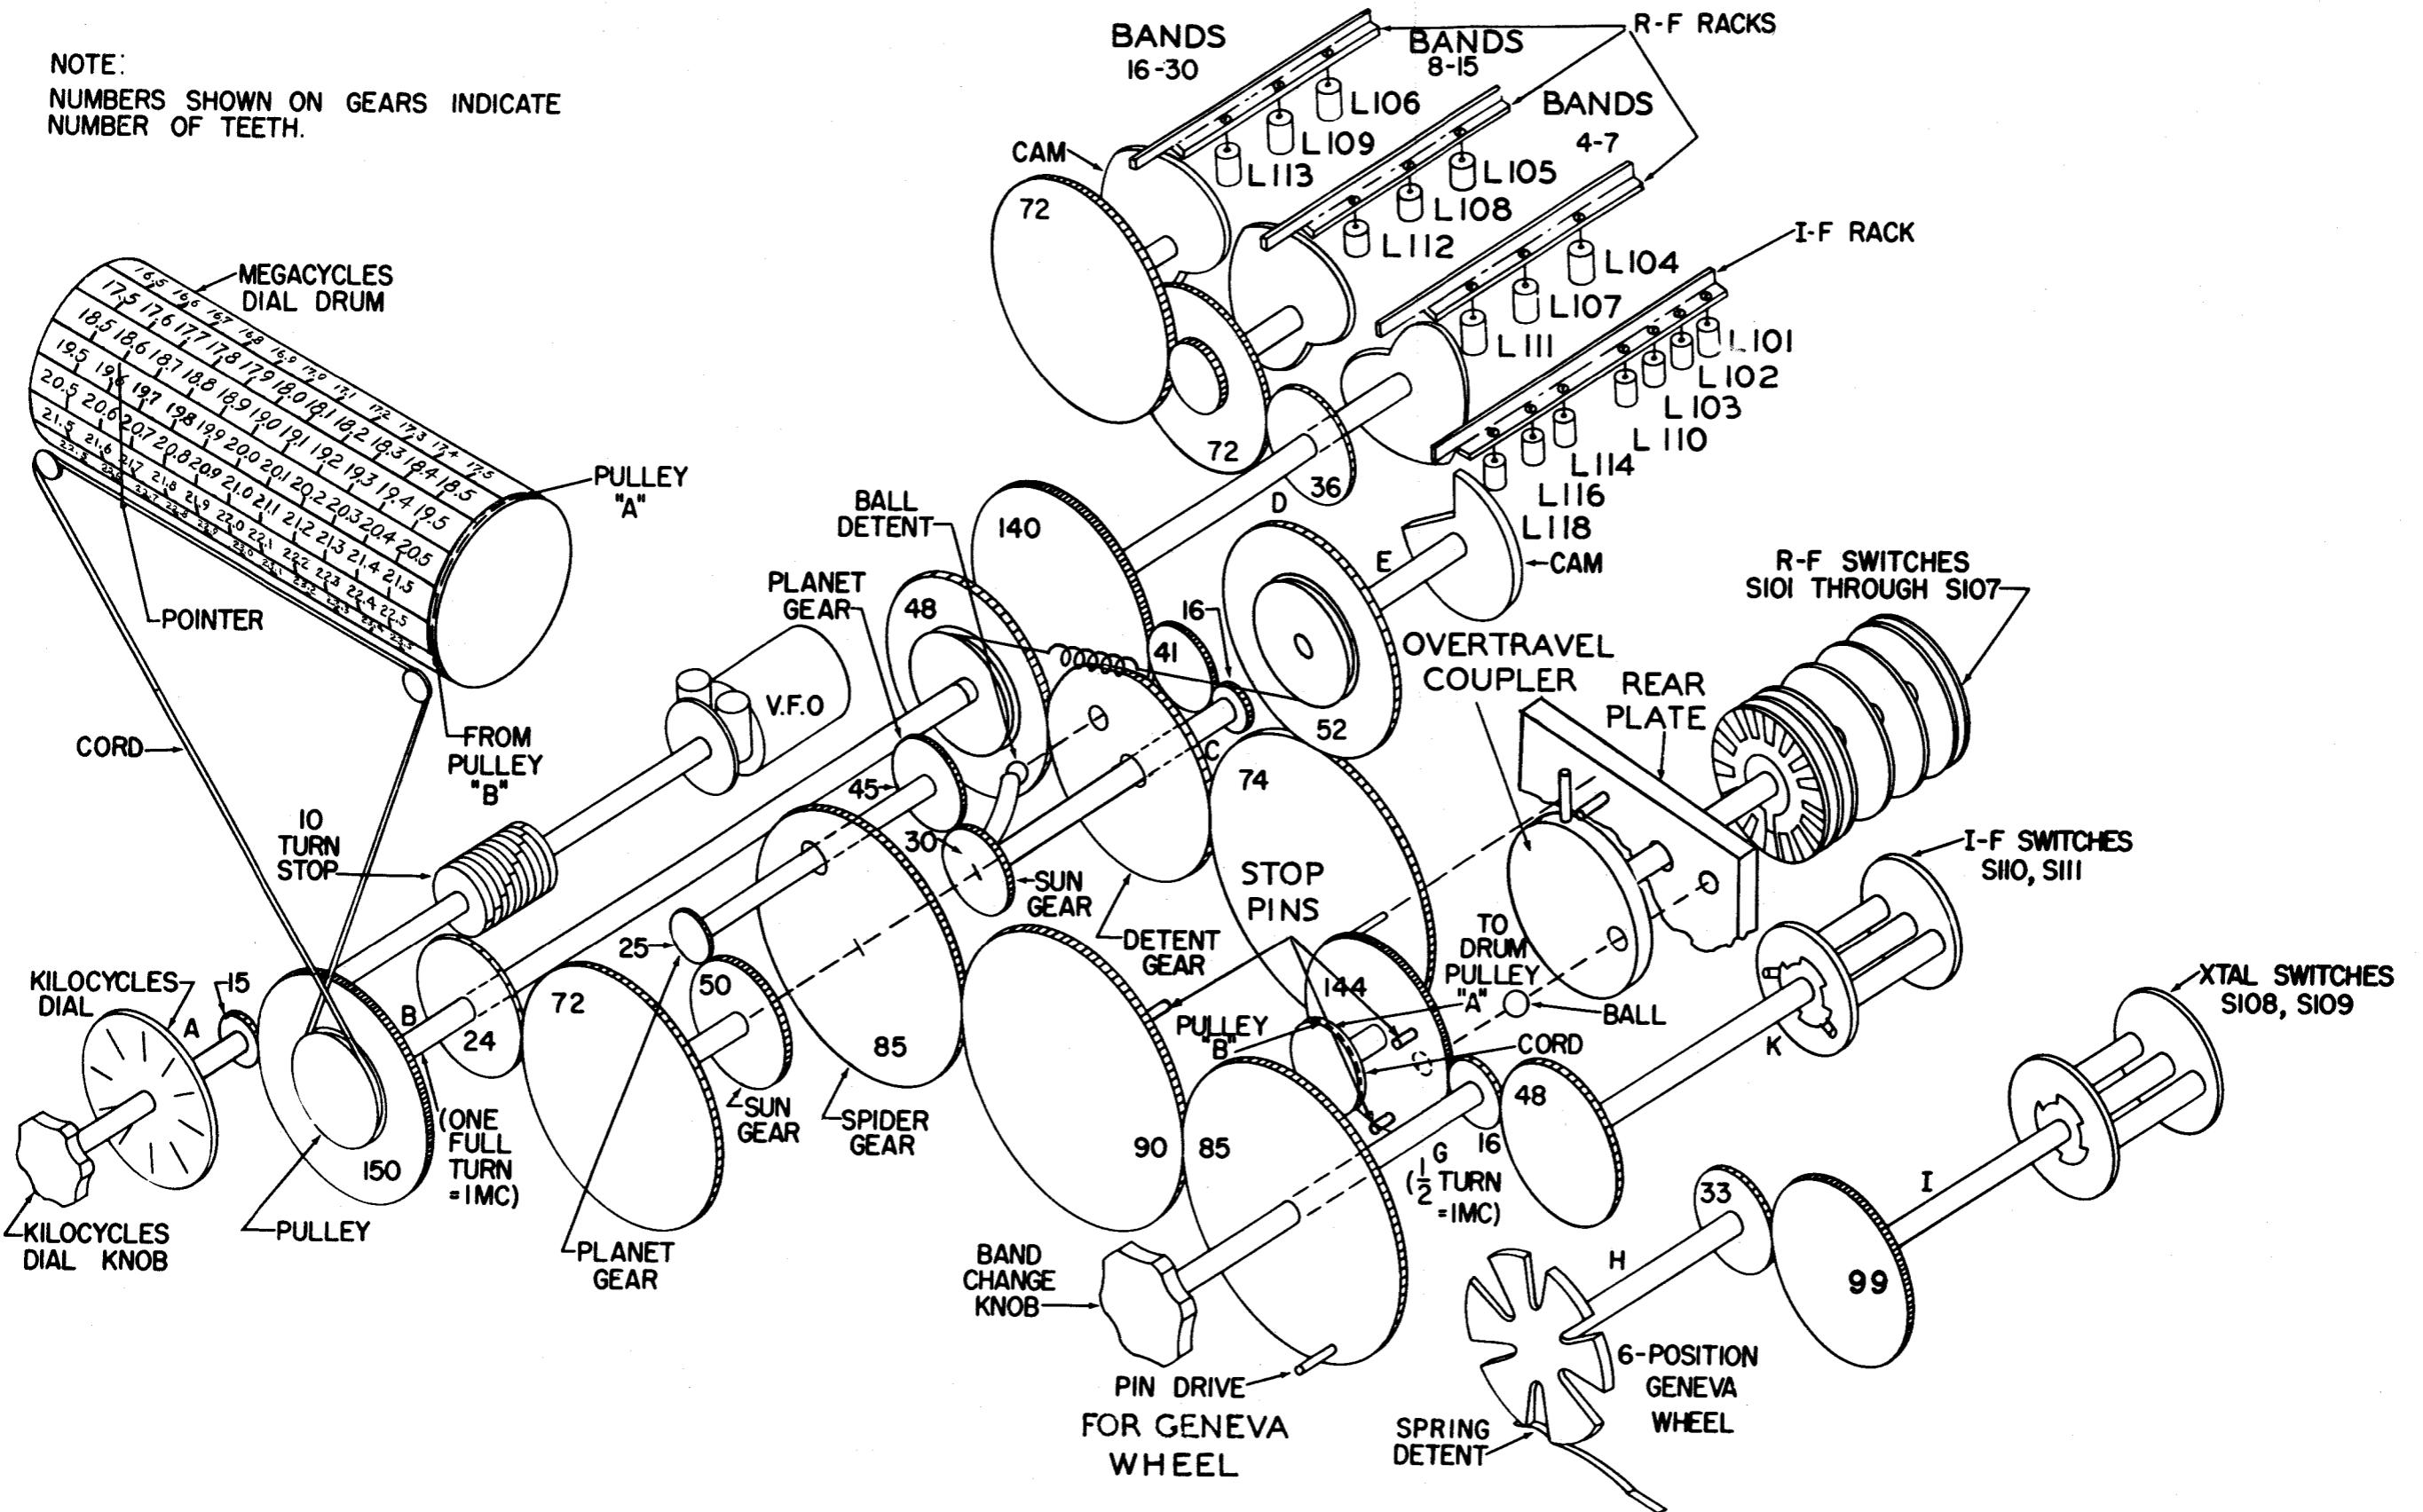

Figure 2-2. Mechanical Functional Diagram
Operations involved in the changing of bands consist of selecting the proper coils in these circuits by means of tap switches and changing the position of the tables holding the tuning slugs for the r-f amplifier and first mixer slug tables. All stages are permeability tuned by powdered iron slugs. (See figure 2-2). The r-f amplifier and first mixer slug tables change position a full megacycle in tuning each time a band is changed. This is true of all three slug tables, which tune L104 through L113. However, the tap switches select the proper set of coils for the frequency desired.
Switch sections of the band switch are ganged with the BAND CHANGE knob through an over-travel coupler. This over-travel coupler drops the band switch at band 16 while the r-f slug tables continue to operate one position for each band as usual. Refer to figure 2-2. This mechanical diagram shows the gears and connecting shafts associated with band change and tuning. Shafts associated with changing bands are C, D, G, H, I, K, and the overtravel shaft. On band 1, radio frequency coils L101 and L110 are switched by means of the BAND CHANGE knob through the overtravel shaft and shaft G. On bands 2 and 3, the r-f coils are selected by the BAND CHANGE knob through the overtravel shaft and shafts G and K, the coils in the variable i-f section, L116 through L119, being used as additional r-f coils on these bands. On bands 4 to 7, the coils are selected by the BAND CHANGE knob through the overtravel shaft and shaft G, and the position of the slug table is changed through shafts C and D. On these bands the same coils are used for each band. Band change is accomplished by moving the tuning slug in the coil an amount equal to one megacycle in frequency. The slug moves in the coil 0.250 inches for a one megacycle change. On bands 8 to 15, the r-f coils are changed by the overtravel shaft and shaft G, and the position of the slug table is changed one megacycle per band through shafts C and D. The movement of the slug table for a one megacycle change is 0.125 inches. On bands 16 to 30, the r-f coils are switched through the overtravel shaft and shaft G to position 16 where the band switch remains for bands 16 to 30 while the overtravel coupler allows shaft G to rotate through to the thirtieth band. The slugs in the r-f coils are driven through shafts C and D. The slugs travel 0.625 inches during band change. During operation on any band between 4 and 30 the variable i-f channel is alternated from one variable if to the other by shafts G and K. Crystals are selected by
b. TUNING. - The r-f, mixer and variable i-f coils, as well as the variable frequency oscillator coil, are permeability-tuned by powdered iron cores. While tuning, these slugs move in and out of the coils at a rate determined by a cam or by a lead screw. Four slug racks or tables are used in the receiver to perform the function of tuning the r-f, mixer and variable i-f stages. The group of three slug tables in the rear position of the chassis tunes the r-f and first mixer stages when the receiver is operating in the 3.5 to 30.5 mc frequency range (bands 4 to 30). The fourth slug table, located at the right hand edge of the receiver, tunes the r-f stage, the first mixer grid, the third mixer grid, and the variable i-f coils when receiving in the range 0.5 to 1.5 mc. It tunes the r-f stage and variable i-f coils L116 and L118 when receiving in the range 1.5 to 2.5 and 2.5 to 3.5 mc. When receiving in the range 3.5 to 30.5 mc, this slug table tunes only the variable i-f coils L116 and L118. During tuning, positions of the slug tables are varied by a system of gears and cams; see figure 2-2.